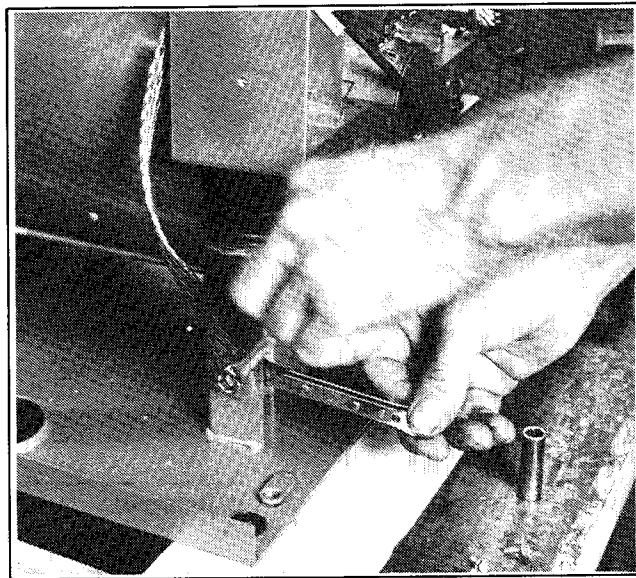
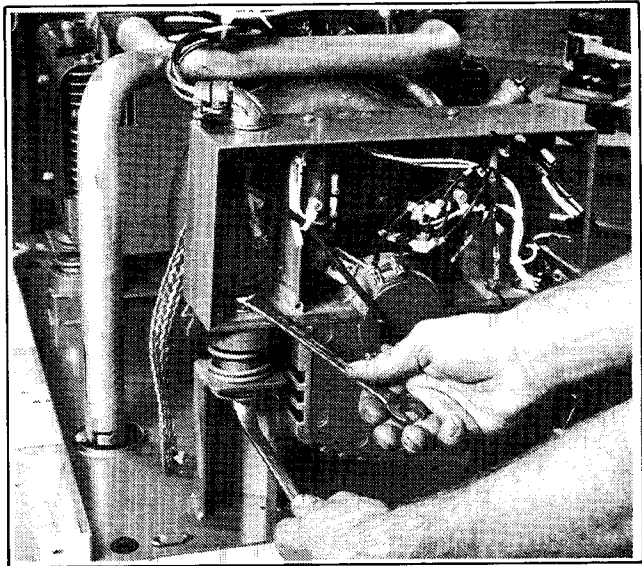

Figure 8-6. Removing Ground Strap
Figure 8-7. Removing Vibro-Mount Hardware
5. Remove ground strap at vibro-mount, see Figure 8-6. Remove vibro - mount nuts, lock washers, flat washers, and bolts from end bracket, see Figure 8-7.